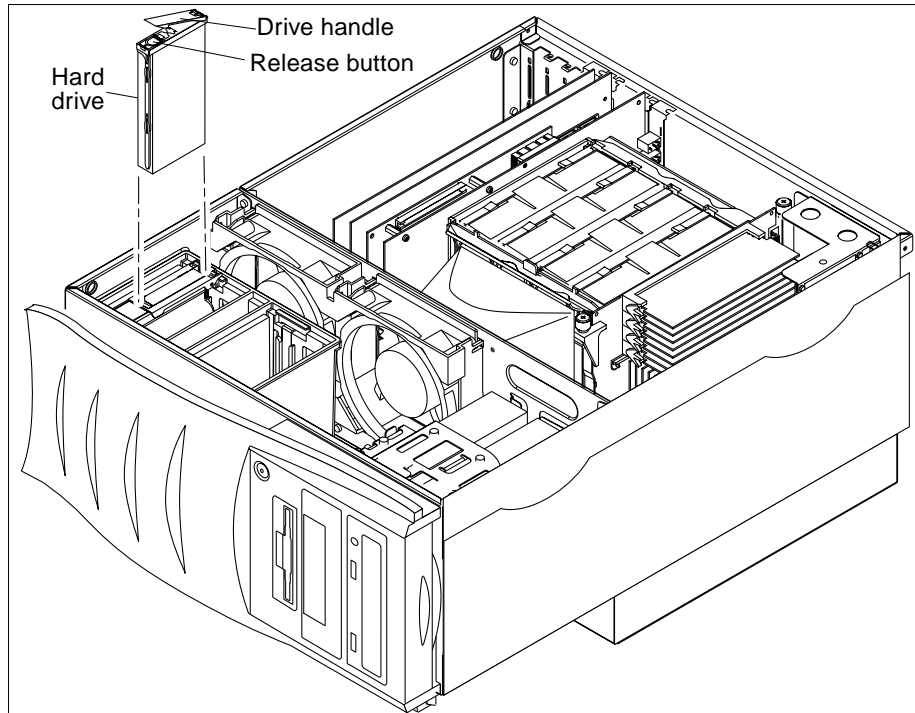

FIGURE 8-1 Removing and Replacing a Hard Drive
**3. Remove the hard drive as follows (FIGURE 8-1):**
1. Replace the hard drive as follows (FIGURE 8-1):